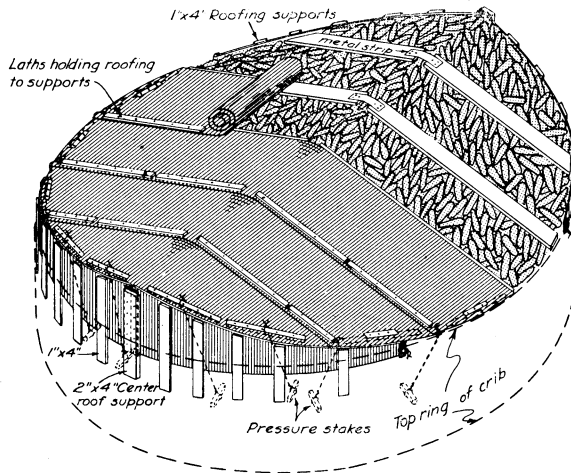
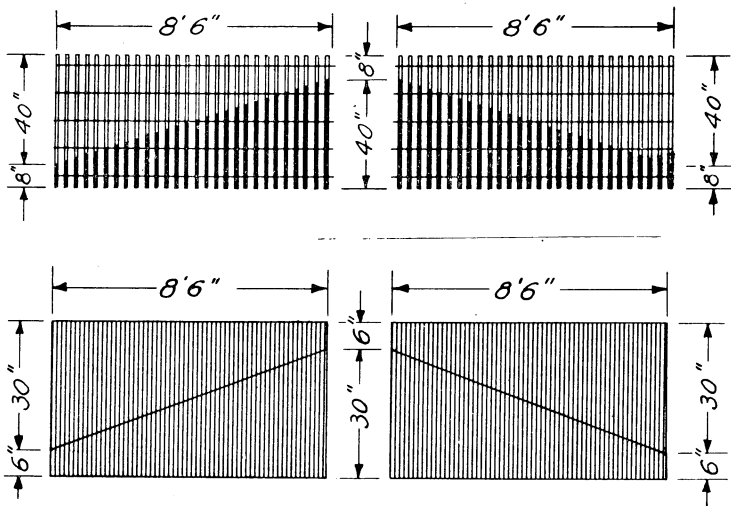

Figure 3. Details for making roll roofing cover for snow fence or wire mesh corn crib.
Figure 5. Patterns for end wall extensions for round corn cribs. Top: 48 inch snow fence; Bottom: 36 inch wire mesh.
**Size of Round Cribs:** Round cribs with ridged fill as shown in Figure 3 will hold approximately 900 bushels of ear corn. This size crib is made of three rings of 48 inch snow fence (50 foot lengths). Four rings of wire mesh will be required when the width of wire is 36 inches.
at opposite sides of the wall between the crib wall and corn. Figure 3 shows placement of these 2 x 4's and also the 1 x 4's on each side of the 2 x 4's to support diagonal strips of fencing. Patterns for end wall extensions are shown in Figure 5.
8. To cover corn with roll roofing (45 pounds or heavier), use 1 x 4 rafter board where edges of roofing are lapped and nailed. Figure 3 shows that rafters are held together at the ridge by pieces of tin or other flexible material.
10. Reinforce edges of roofing using lath and pressure stakes as shown in Figures 3 and 6.